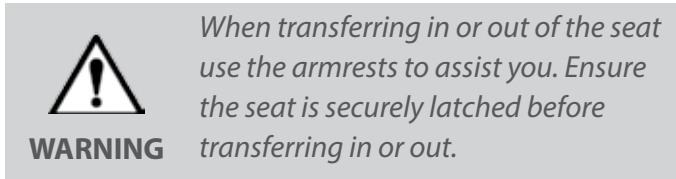

Figure 6.1
Step 5: To safely exit the lift, remove the seat belt, support yourself by the armrests, rise and step off the footrest. At the upper landing, ensure that the seat is fully swiveled and locked before rising. [Figure 6.1] If you do not intend to use the lift again immediately, the seat and armrests may be folded up to minimize obstruction to people walking on the stairs.